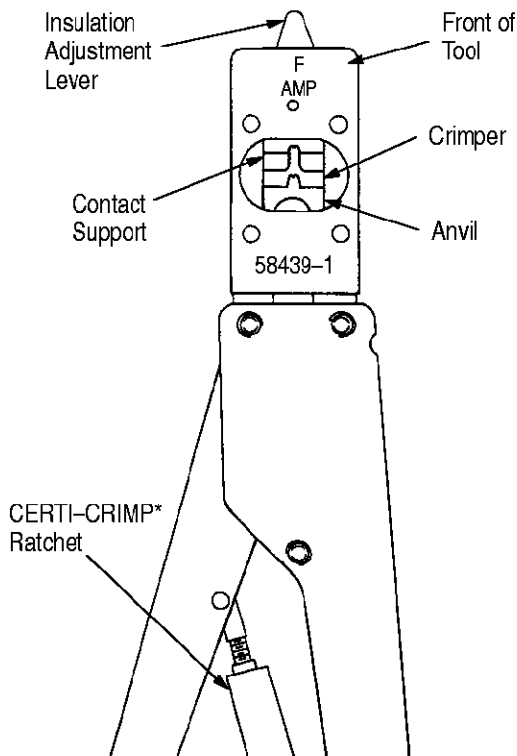
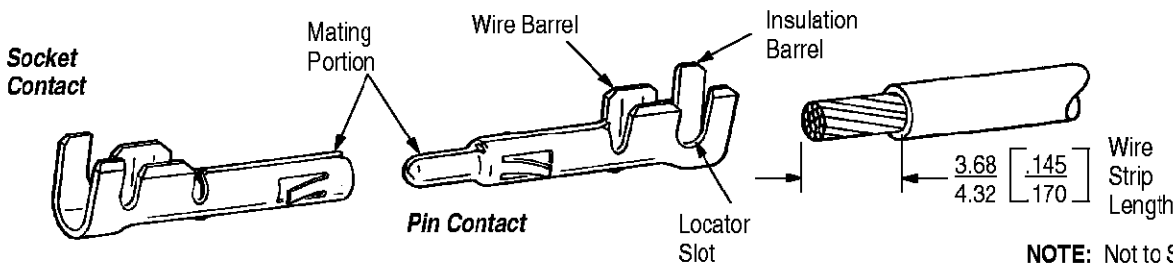

Figure 1
Figure 2
AMP* Hand Crimping Tool 58439-1 (Figure 1) is designed for crimping AMP Universal MATE-N-LOK* and Universal MATE-N-LOK II loose-piece (LP) and strip form pin and socket contacts listed in Figure 2. Read these instructions thoroughly before crimping any contacts.
lever is used to regulate the crimp height of the contact insulation barrel. Refer to Section 4, INSULATION CRIMP ADJUSTMENT. The contact support prevents the contact from bending during the crimping operation. The locator/insulation stop has two functions: first, it positions the contact between the crimper and the anvil before crimping; and, second, it limits the insertion distance of the stripped wire into the contact. In use, it rests in the locator slot of the contact (see Figures 2 and 3). The CERTI-CRIMP ratchet assures full crimping of the contact. Once engaged, the ratchet will not release until the handles have been FULLY closed.
Refer to the table in Figure 2 and ensure that the wire of the specified size and insulation diameter is compatible with the contact and the wire size marking on the BACK of the tool. Strip the wire to the length indicated — do NOT cut or nick the wire strands. Then proceed as follows:
1. Select a terminal, maximum size wire, and the designated crimp section for the wire you are using. See Figure 2.